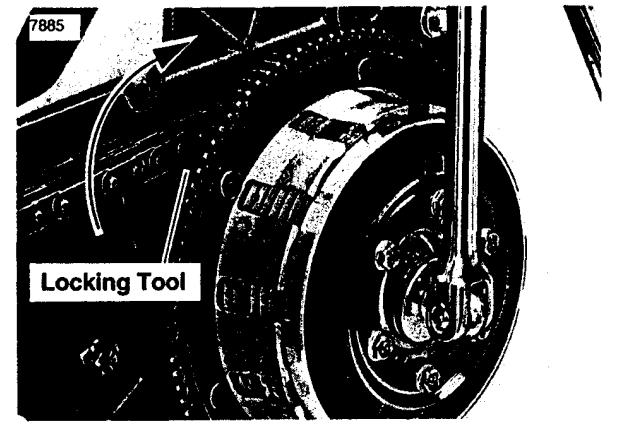

Figure 6-9. Removing Clutch Hub Mainshaft Nut
See Figure 6-9. When removing the clutch hub mainshaft nut the PRIMARY DRIVE LOCKING TOOL (Part No. HD-41214) must be placed between upper strand of primary chain and clutch hub sprocket.
6. See Figure 6-9. Using a breaker bar, remove clutch hub mainshaft nut.